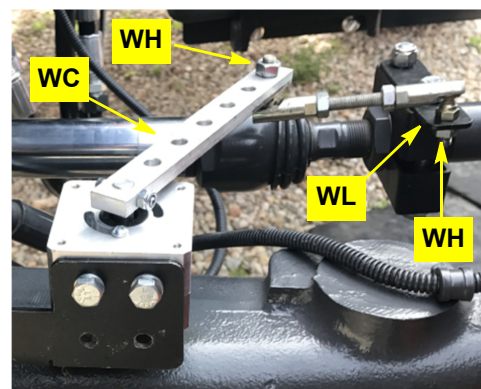

Figure 2d: WAS link rod installed
d. Using nuts **WH**, install the link rod assembly from step 1 between the last hole in WAS arm **WC** and bracket **WL**. Set the swivel stud upward into **WC**, downward into **WL** (Figure 2d). Leave **WH** loose.